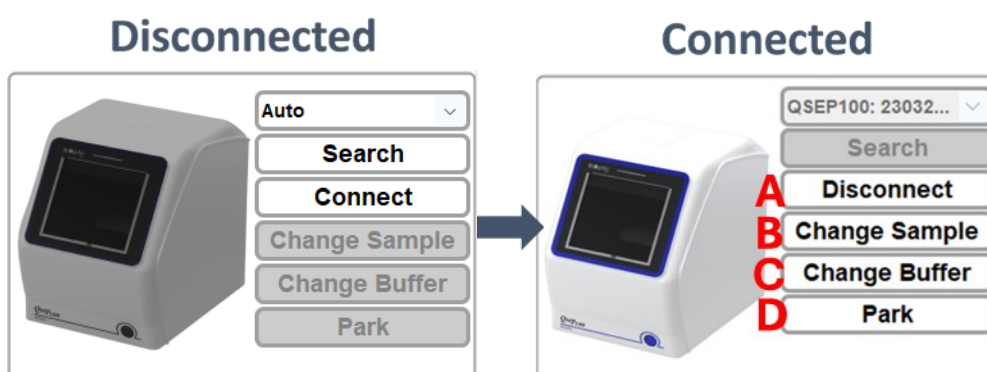

Figure 10 Instrument Connection
To establish the connection between *Qsep_{100 2.0}* Bio-Fragment Analyzer and the computer, click on the **Connect** button on the Control Panel (Figure 10 A). Once the button text changes to **Disconnect** and the displayed images of *Qsep_{100 2.0}* Bio-Fragment Analyzer turns into color, the connection is established.
1. Click on **Change Buffer** to move the tray holder to the door (Figure 10 C), and place the Buffer and Marker on the tray holder. Press the marker tubes tightly down into the wells.
2. Click on **Change Sample** to move the plate holder to the door (Figure 10 B), and place the samples on the sample plate holder.
3. Click on **Park** to move the tray holder to the park position (Figure 10 D).